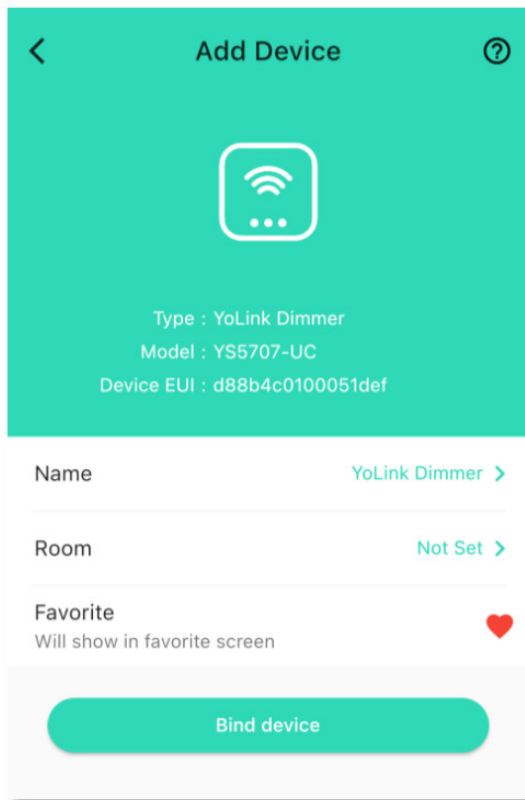

Figure 1
7. Refer to Figure 1 on the next page. You can edit the name of the Dimmer Switch, and assign it to a room, if desired. Tap the Favorite heart icon to add this device to your Favorites screen. Tap Bind device